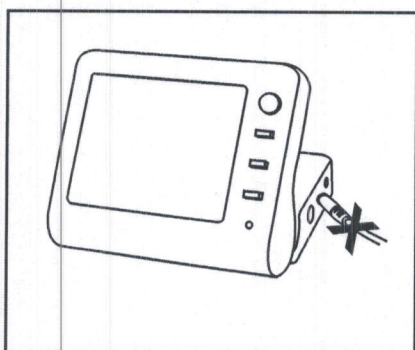

Fig.6
- 1) Disconnect the charger from the instrument if connected.(Fig.6)